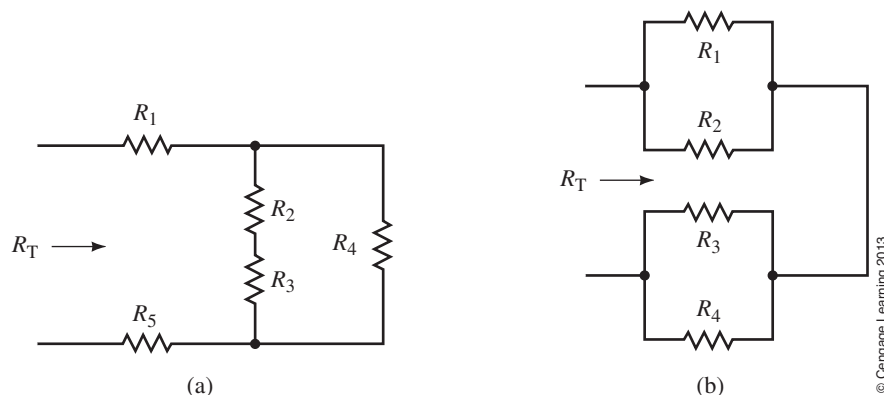

FIGURE 7-46
1. For the networks of Figure 7-46, determine which resistors and branches are in series and which are in parallel. Write an expression for the total resistance, R_T .